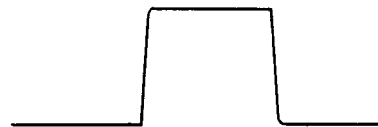

FIGURE 5-4
4. The output waveform (Refer to Figure 5-4) should be clean and sharp throughout the entire range of the level control.